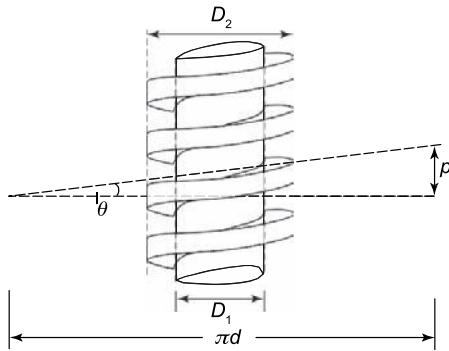

Figure 16.15
Consider the thread of the square-threaded screw jack shown in Figure 16.15.
From Figure 16.15, the motion of the screw in lifting the weight can be regarded as pulling the weight by a horizontal force P , up an incline θ , where
$$\tan \theta = \frac{p}{\pi d} \quad \text{as shown in Figure 16.15,}$$
However, from Figure 16.15,
From Figure 16.15, the **actual work done** = $P \times \pi d$
- The coefficient of friction on the sliding surface of a screw jack whose thread is similar to Figure 16.15, is 0.24. If the pitch equals 12 mm, and $D_1 = 42$ mm and $D_2 = 56$ mm, calculate the efficiency of the screw jack.